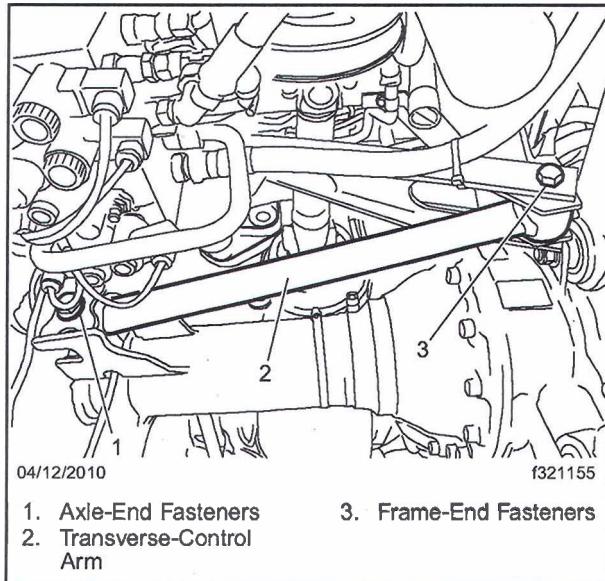
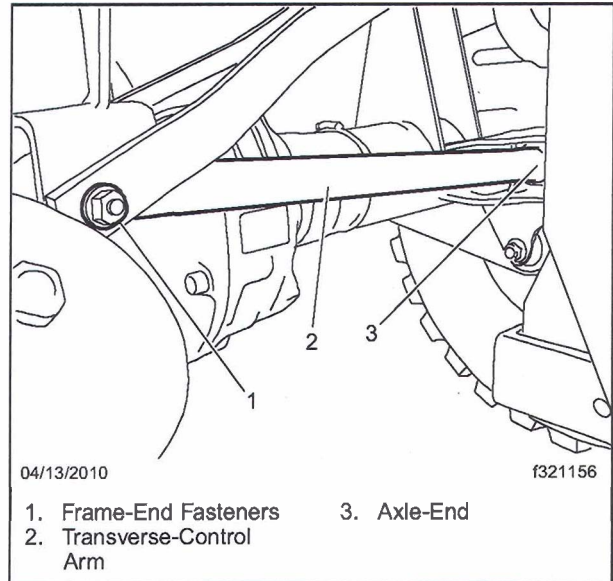

Fig. 2, Steering-Axle Transverse-Control Arm
Fig. 3, Rear Axle Transverse-Control Arm
2. Remove the bolt, locknut, and washer from the frame-end bolt eye. See Fig. 2 for the front steering axle. See Fig. 3 for the rear axle.